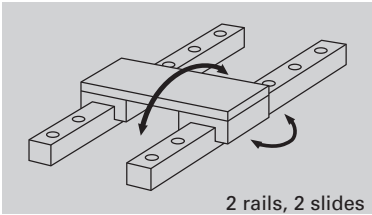
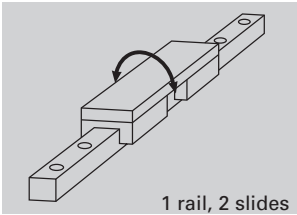
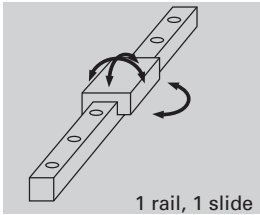

Fig. 3.6 Pitching and yawing direction
Fig. 3.7 Rolling direction
Fig. 3.8 All directions
- However, in cases as shown in Fig. 3.6, Fig. 3.7 and Fig. 3.8, it is necessary to take into account the moment rigidity in addition to the radial rigidity.